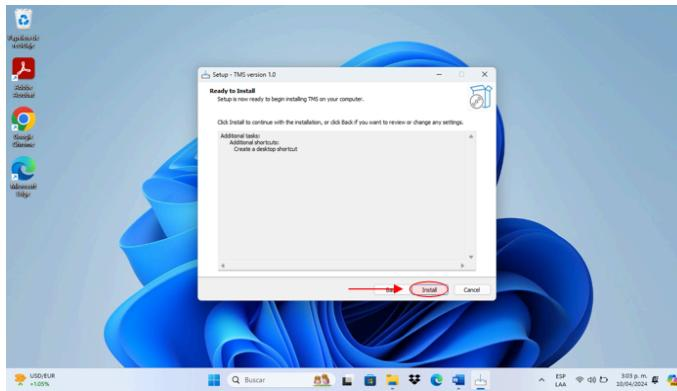

Figure 7. Installation of the executable file.
- VI. Next, click on "*Install*" to begin the installation of the application, as shown in *Figure 7*.